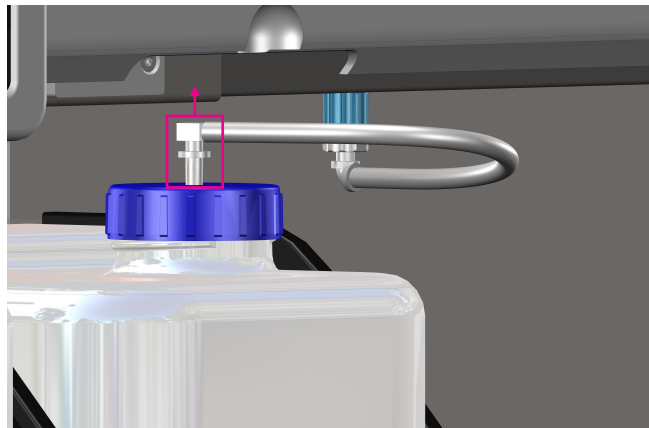

Figure 62
4. Disconnect the LUER connector from the iWASH PRO screw cap (Figure 62).